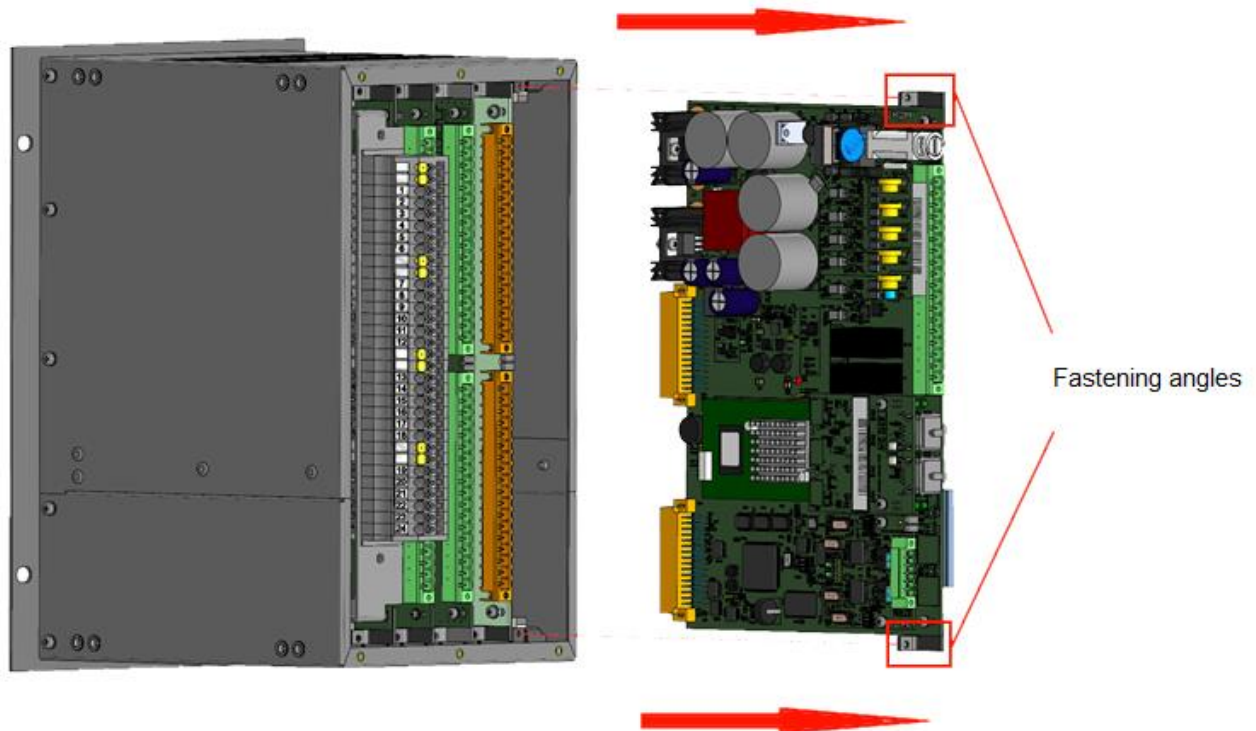

Figure 121 – Removal of the module from the device
13.5.1.6 Remove the module from the device. To do this, carefully pull the module out of its installation location. When removing it, we recommend holding the module either by the external connector or by the corners of attachment to the frame (figure 121).